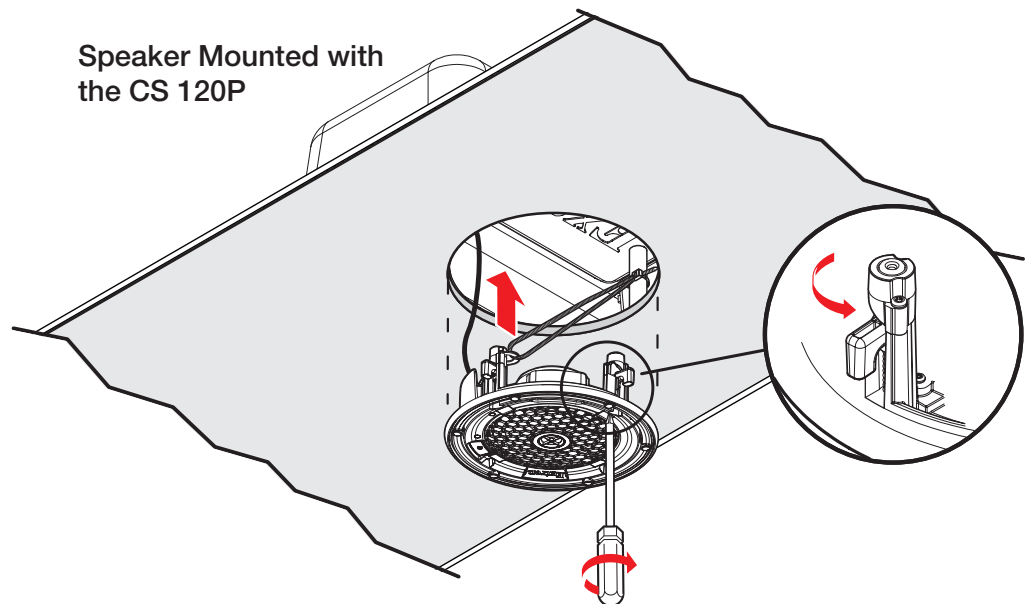

Figure 46. Mounting the Speaker to the CS 120P
9. **Mount the CS 26T Plus** (see figure 46 below).